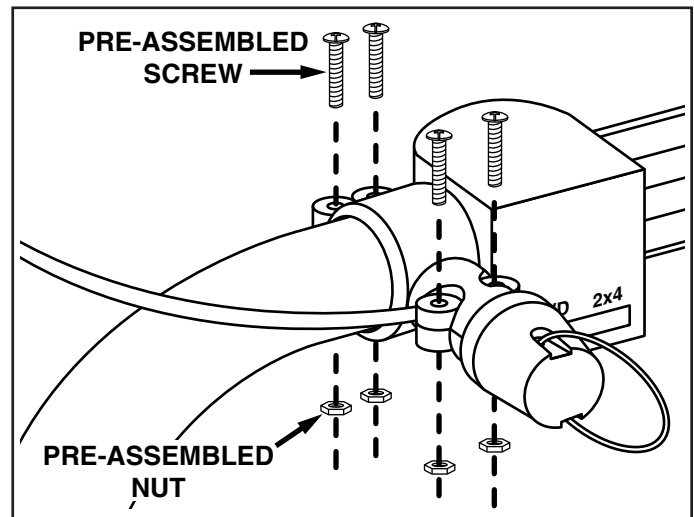

FIGURE 5
12. Attach the tethered safety switch to the handlebar using (4) pre-assembled screws and (4) pre-assembled nuts. See figure 5.